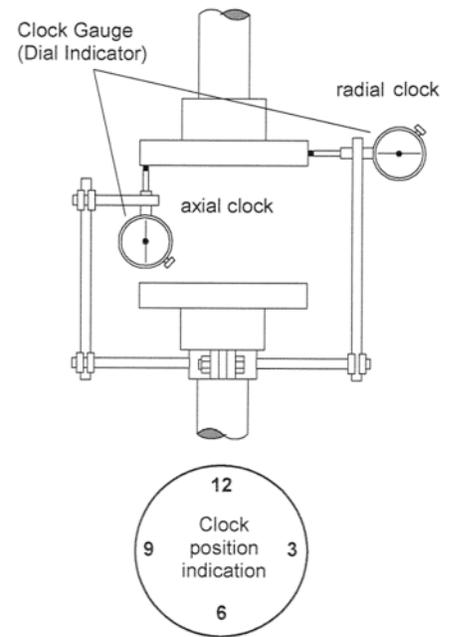

Figure 5.5
5.2.4.2 Alignment should be carried out with dial indicators in the axial direction and radial directions as shown in Figure 5.5. Ensure that the supports for each indicator are sufficiently rigid to eliminate any sag that may cause spurious readings. All readings are determined every 90° while both shafts are simultaneously turned.